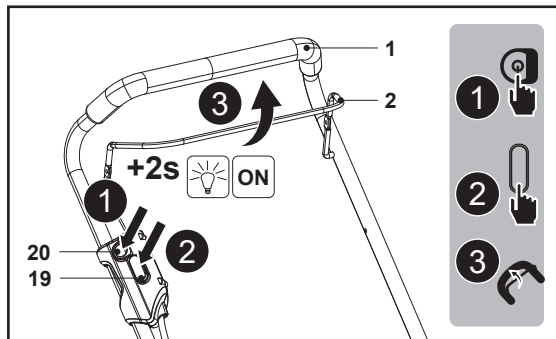

Fig. 14
1. **Switch on the machine:** Press and hold the power button (20) for 2 seconds until its indicator lights up (Fig. 14, step 1). Release the power button (20) afterwards.
2. While depressing the safety button (19), pull the start lever (2) towards the grip handle (1) and hold in place (Fig. 14, steps 2, 3).
3. Release the safety button (19) as soon as the motor starts running. The mower will continue to run until you release the start lever (2).
4. Release the start lever (2) to stop the motor.
5. **Switch off the machine:** Press and hold the power button (20) for 2 seconds until its indicator goes off. Release the power button (20) afterwards.